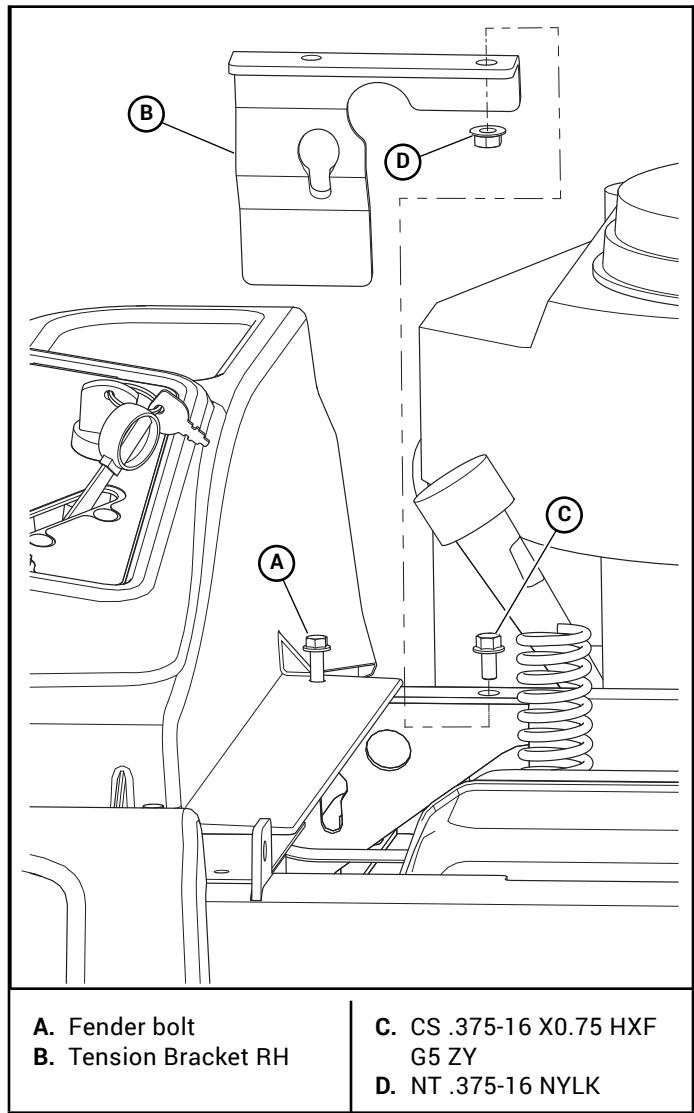
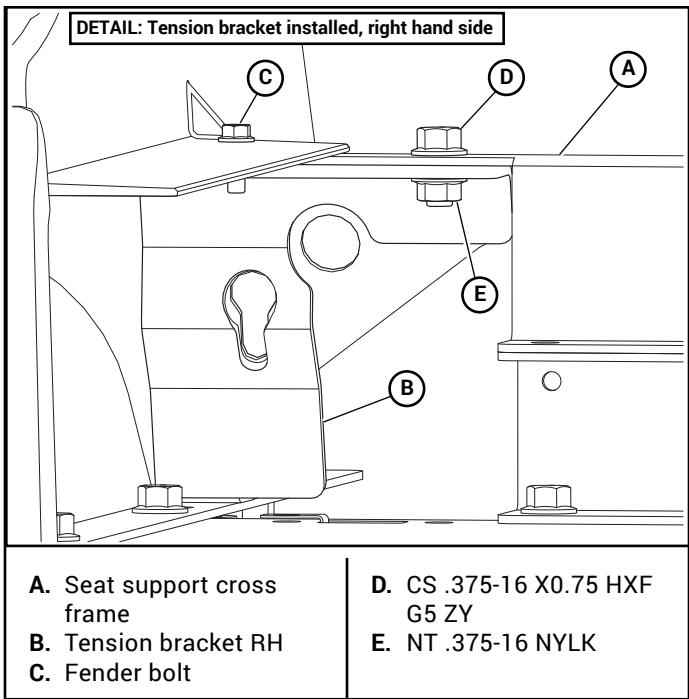
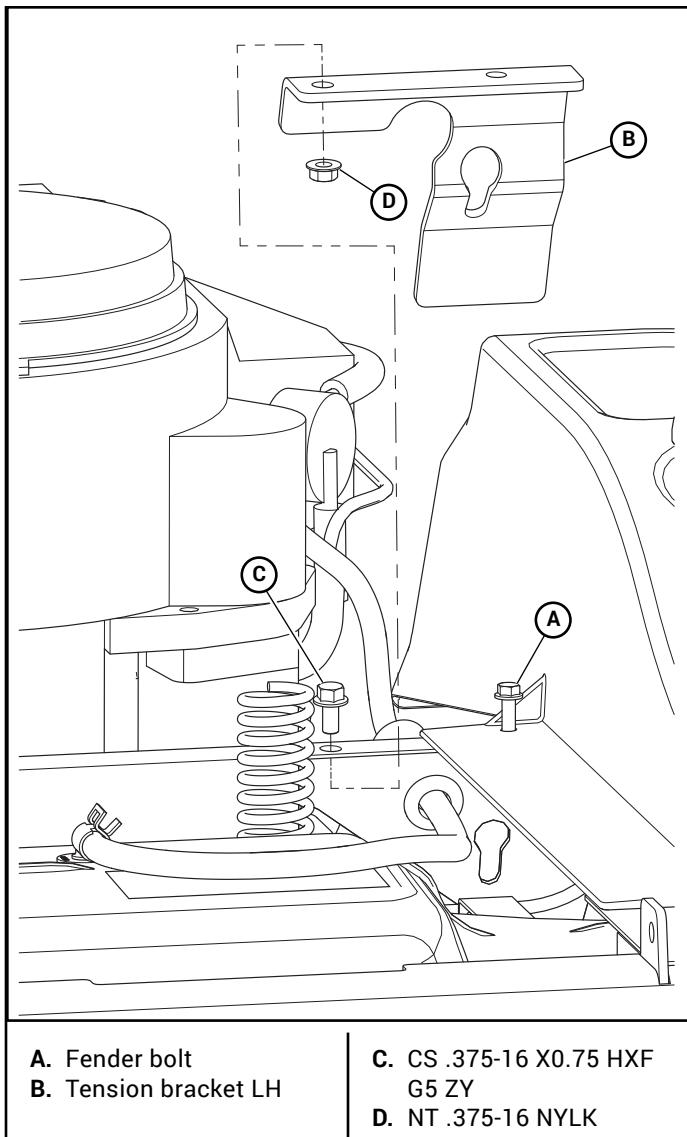

Figure 3-14
Figure 3-15
Figure 3-16
- 20.** Loosen the fender bolt that attaches fender to mower frame. Do not remove the fender bolt. Figure 3-14 & Figure 3-16
- 21.** Carefully install the tension bracket on the underside of the seat support cross frame as shown. Make sure to not pinch or trap any fuel lines. Figure 3-14, Figure 3-15, & Figure 3-16